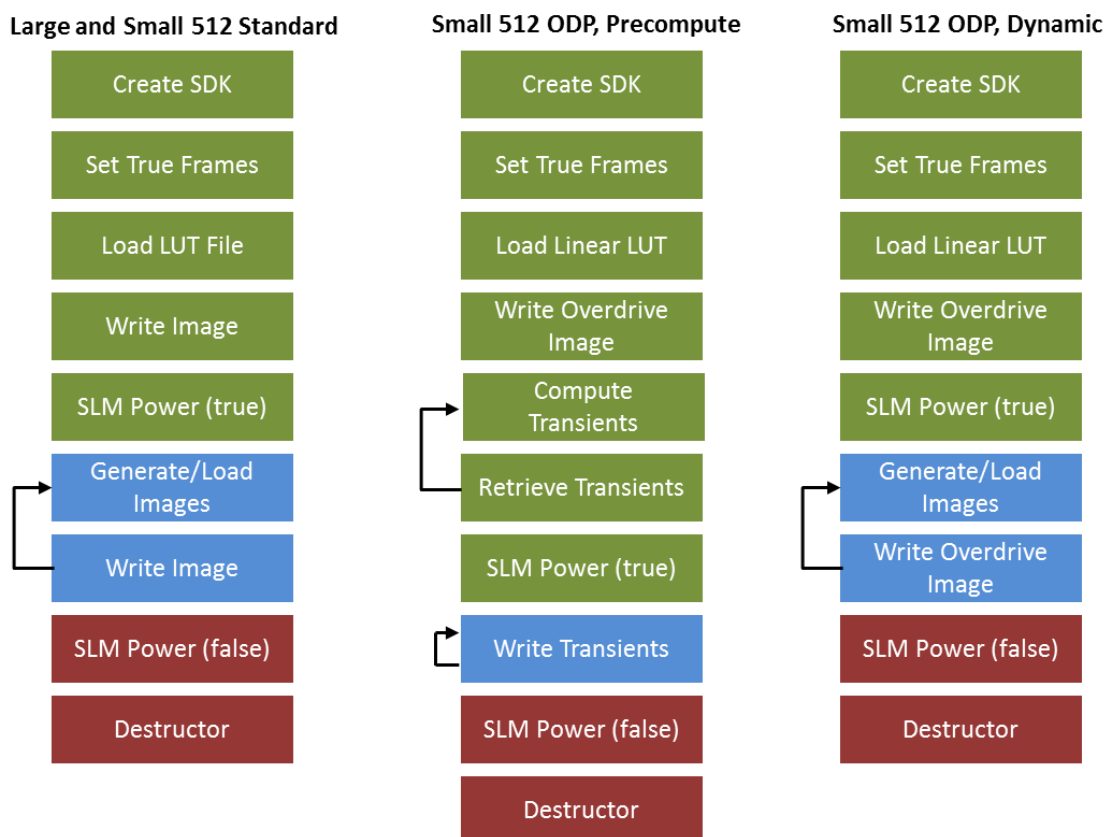

Figure 1: Function Call Order of Operations
For Matlab, LabVIEW, and C++ there are two examples demonstrating use of the SLM with and without ODP enabled. Figure 1 shows the order of function calls with green indicating initialization, blue indicating the customers loop of loading images to the SLM, and red indicating the proper shut down procedure. The function calls are further detailed in Function Summary and Usage.
- Max Transient Frames – This parameter is specific to ODP. Multiple concepts are built into ODP to improve the LC switching speed. One concept is referred to as the transient nematic effect. As shown in Fig. 1, if phase delay of a LC modulator is changed from φ_0 to φ_1 , then the LC molecules relax into the new phase following approximately an exponential curve. In order to take advantage of the transient nematic effect, one instead changes the phase from φ_0 to φ_{\max} to φ_1 . This causes the relaxation to follow a different exponential curve until the desired phase is reached, resulting in a significantly improved switching speed. When switching between images with pixels set to arbitrary phases, the duration of time that the pixels should be set to an intermediate phase is variable based on the initial and target phase. The transient frames allow the different pixels to be held at varying voltages for an appropriate amount of time. However, on most computers each transient frame takes approximately 490 μ s to load. There is a balance between minimizing the LC response time without limiting the system frame rate. In most applications we recommend this parameter be set to 10.